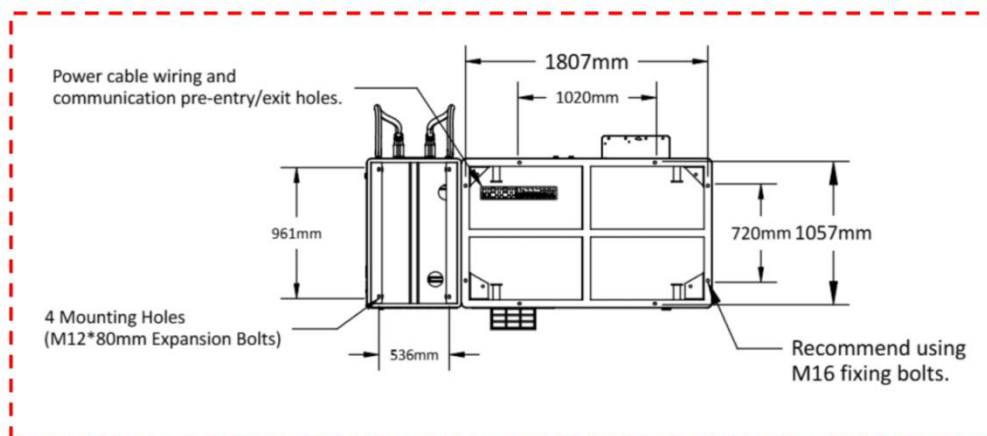

Figure 4.5-1
1. Select the installation position of the equipment in advance according to the product size, and ensure proper positioning and fixation; The suggested foundation is shown in Figure 4.5-1.